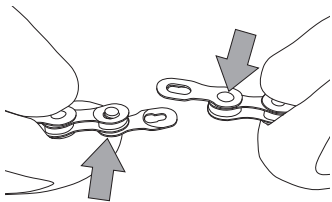

Fig.7
- Fit each pin of the C-Link™ in the two free holes on the inner links of the chain (Fig. 7).